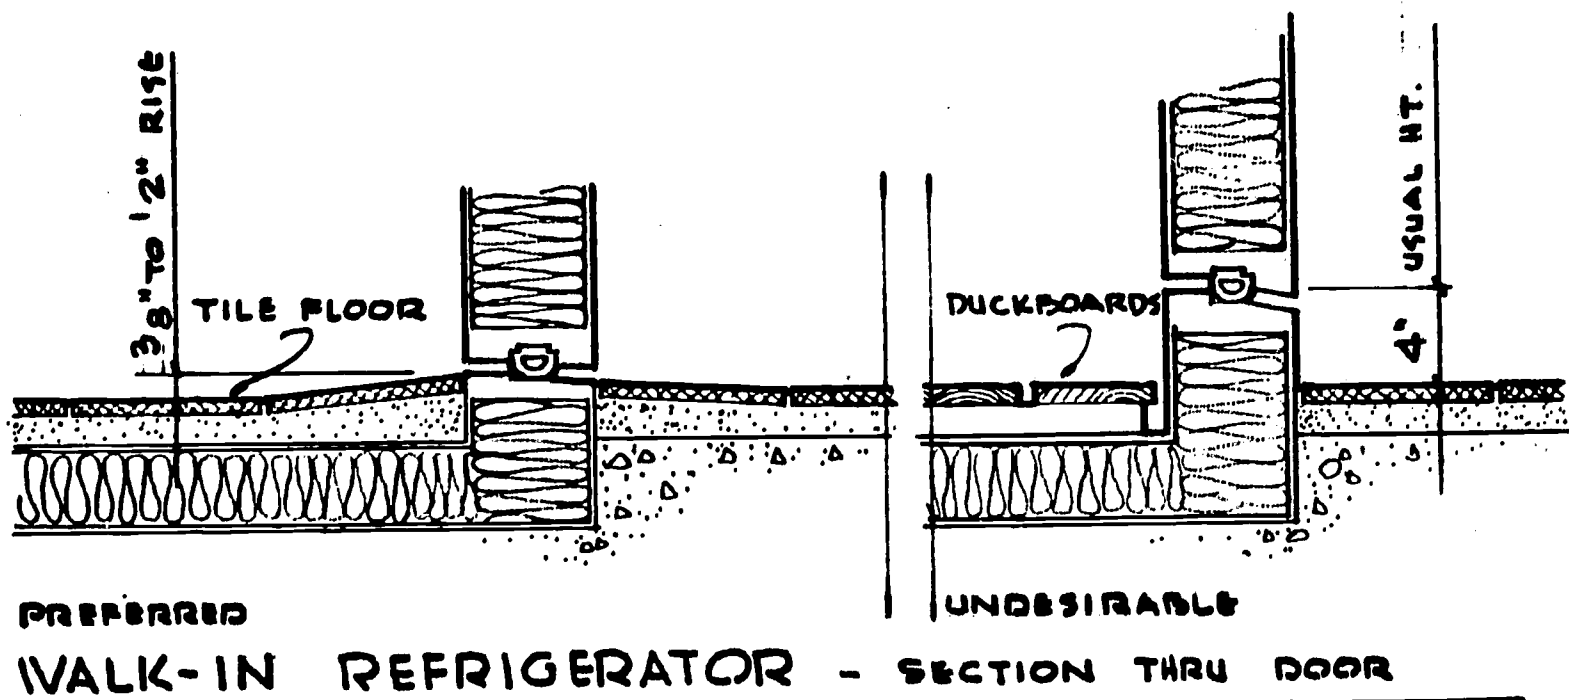

FIGURE 10
- The floor should be level with the adjoining floor, except for a slightly raised door sill. (Figure 10.) This permits the use of mobile equipment.